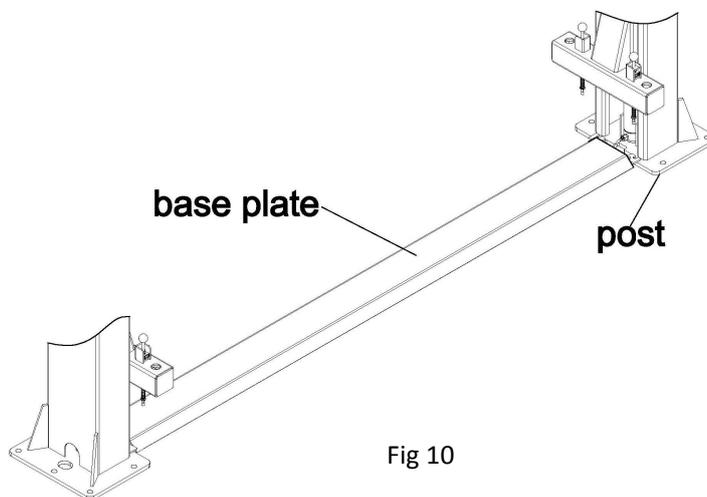

Fig 10
**Step9: Fix the base plate. (Fig 10)**